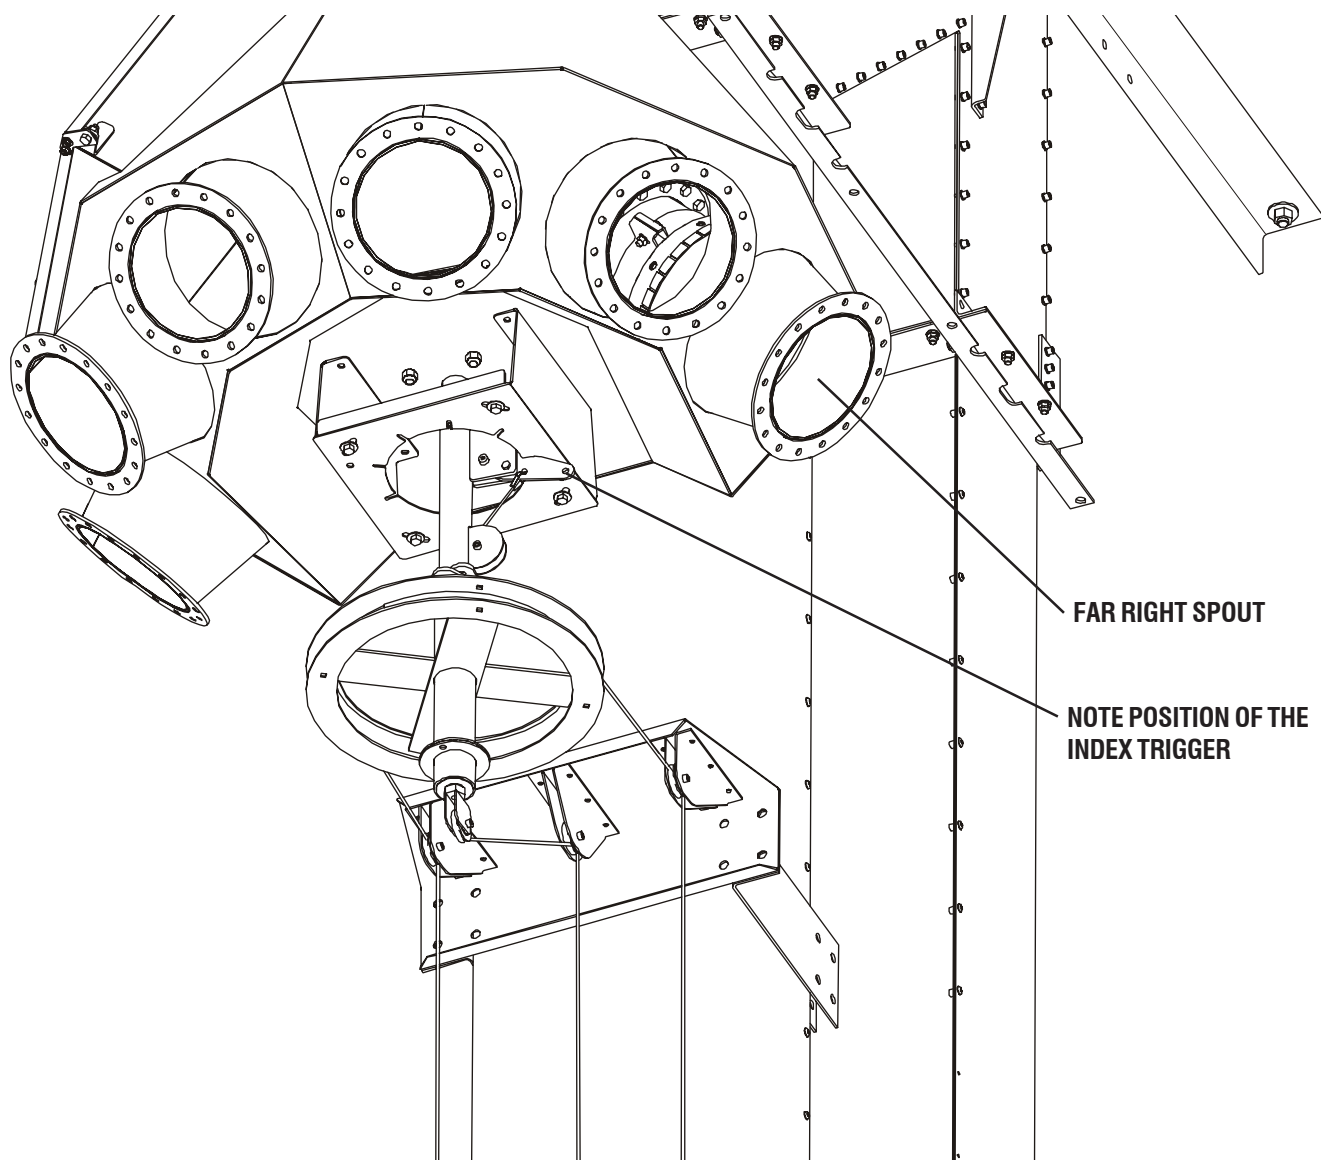

Figure 15
Step 1: Place the discharge spout index trigger to the far right as shown in Fig.15.